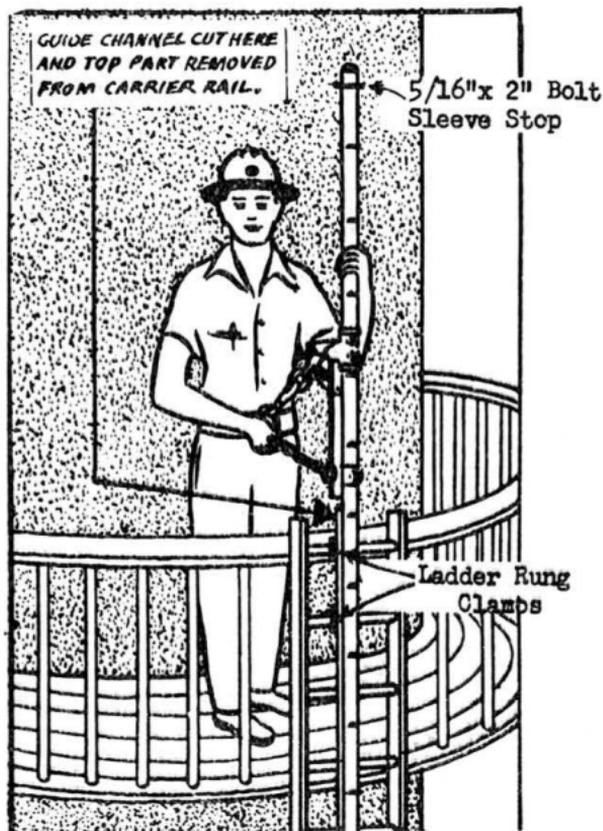

FIG. 5
3.12 The last section of carrier rail placed on an installation ending at a platform shall be modified and installed as follows. This permits climber to rotate around carrier rail and stand on platform. (See Figure 5)